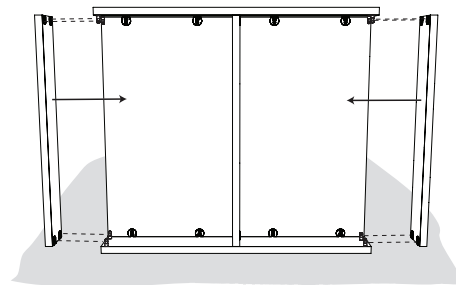

Fig. 7
6. Push toe kicks over screw-in studs at toe-kick locations. (See Fig. 7.) Tighten cams on toe kicks.